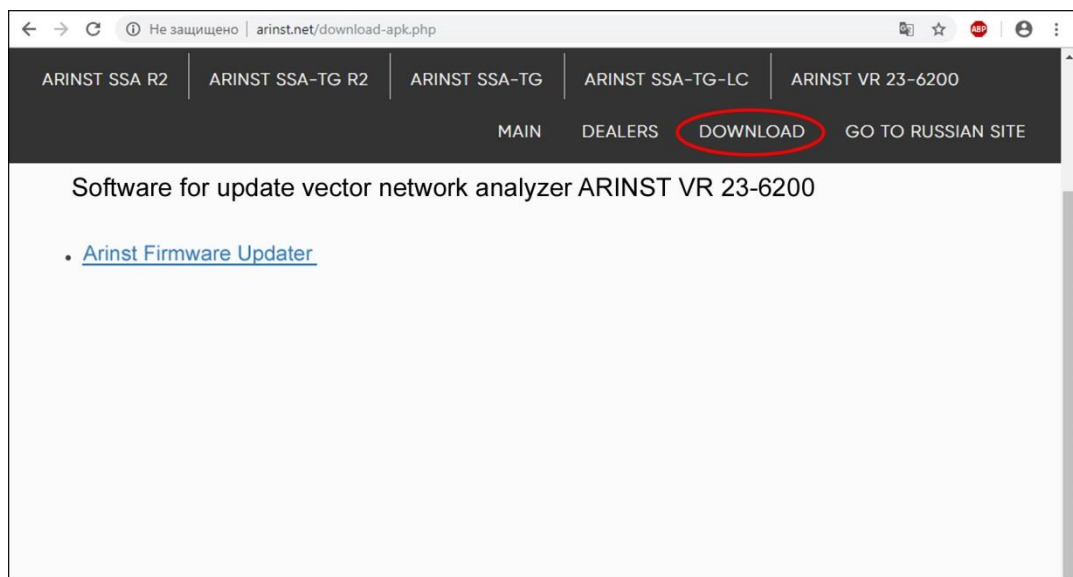

Figure A1.1 – Software download for updating the device
1.1. Visit the official ARINST website by typing in the address bar of your browser [www.arinst.net](http://www.arinst.net). Go to the **DOWNLOAD** section and click on the file *Arinst Firmware Updater* to update the firmware of the vector analyzer Arinst VR 23-6200 (Figure A1.1).